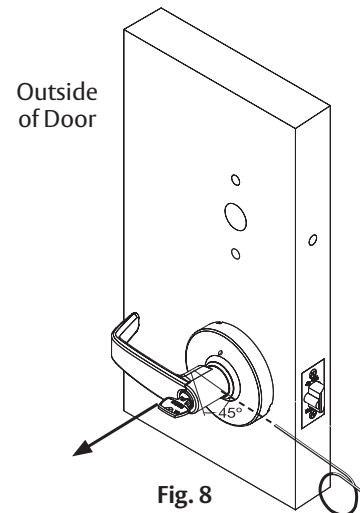

Fig. 8
a. Remove outside lever. (Fig. 8)